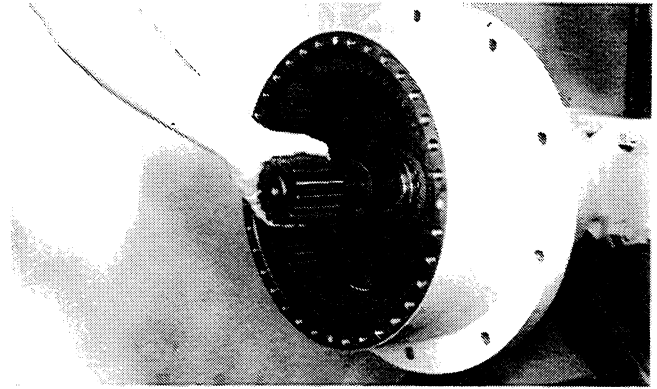

Figure 3:
5. The axle shaft and sun gear assembly may now be withdrawn, (Fig. 3). At this time, as both axle shaft assemblies are removed, the differential carrier can be removed from the axle housing.